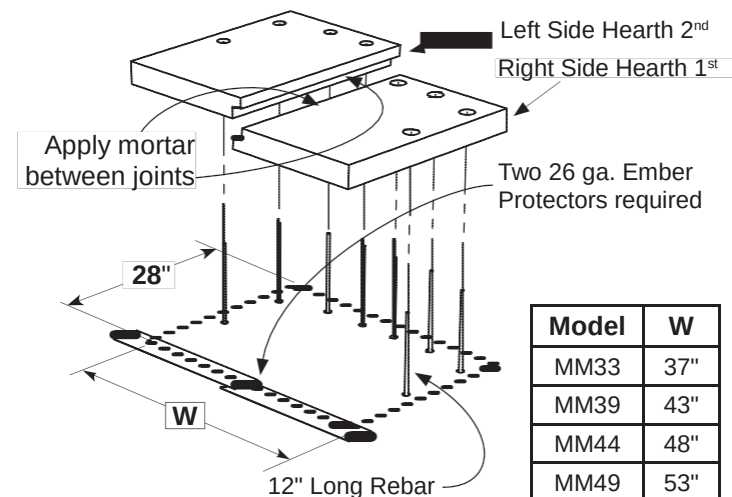

**Figure 34 - Positioning Hearth Base For MM33,39,44,49**
b) **Non-combustible Floor Installations:** Draw an outline of the hearth area based on the dimensions shown in pages 4 and 5. Position Hearth slabs and mark rebar center locations. Drill 4 inches using Roto-hammer into concrete slab and secure the 8 pieces (10 pieces for MM63) of 12" long rebar with epoxy. See Figure 34 & 35.